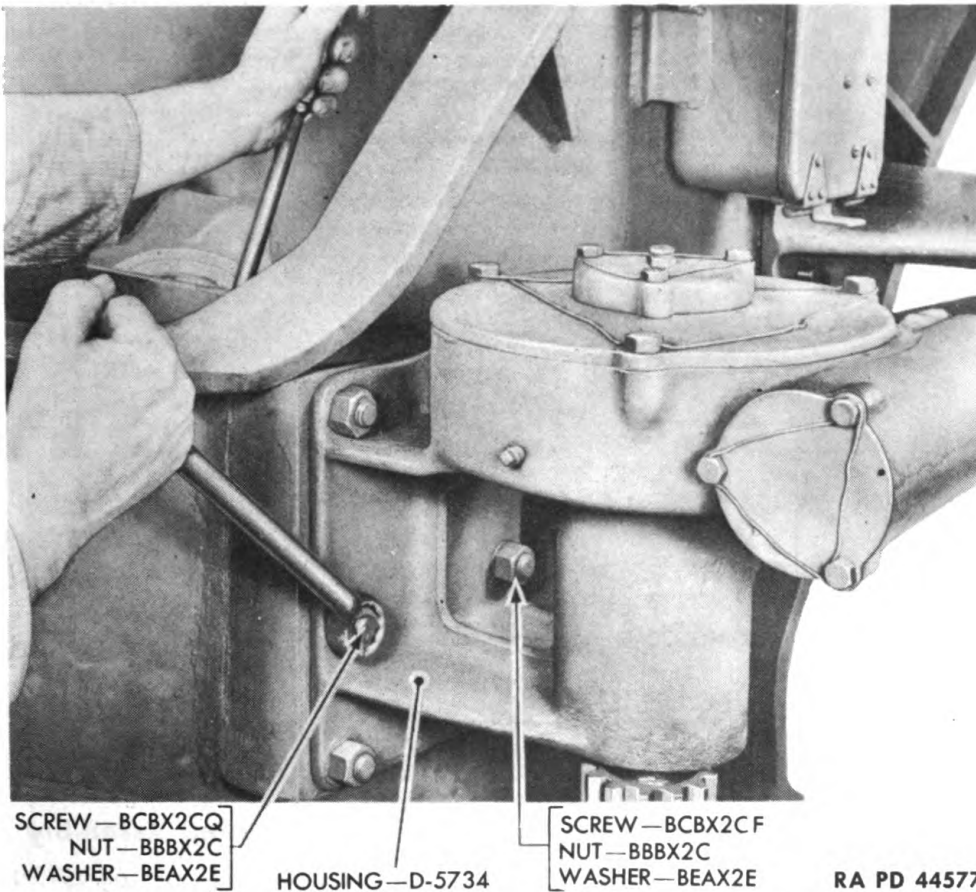

Figure 147—Removing Traversing Gear Housing Screw Nuts
(1) Coat the mating surfaces of traversing gear housing and top carriage with **LEAD**, white. Also coat threads of the six traversing gear housing retaining screws with **COMPOUND**, rust-preventive, light. With two men holding traversing gear assembly in place, insert the six screws from inside the top carriage through the mounting flange of the gear housing. Put washers and nuts on screws and tighten nuts (figs. 147 and 148).